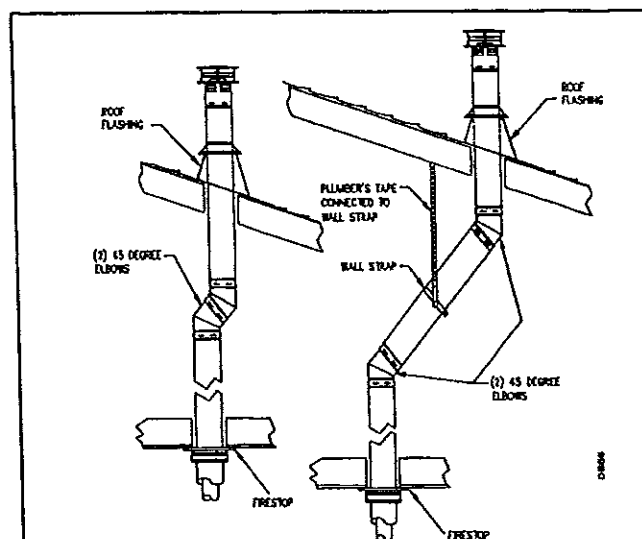

Figure 27 - Vertical Vent Pipe Offsets
**Note:** If an offset is needed to avoid obstructions, you must support the vent pipe every 3 feet. Use wall straps for this purpose (see Figure 27). Whenever possible, use 45° elbows instead of 90° elbows. The 45° elbow offers less restriction to the flow of the flue gases and intake air.
5. Place the flashing over the pipe section(s) extending through the roof. Apply a bead of silicone or roof sealer to the bottom flange of the flashing and secure the base of the flashing to the roof and framing with roofing nails. Be sure roofing material overlaps the top edge of the flashing as shown in figure 27, on page 12. There must be a 1" clearance from the vent pipe to combustible material.